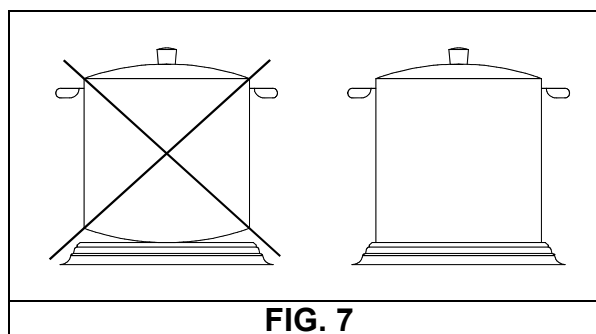

FIG. 7
- ***To always use pans with flat and very thick bottoms (see fig. 7).***